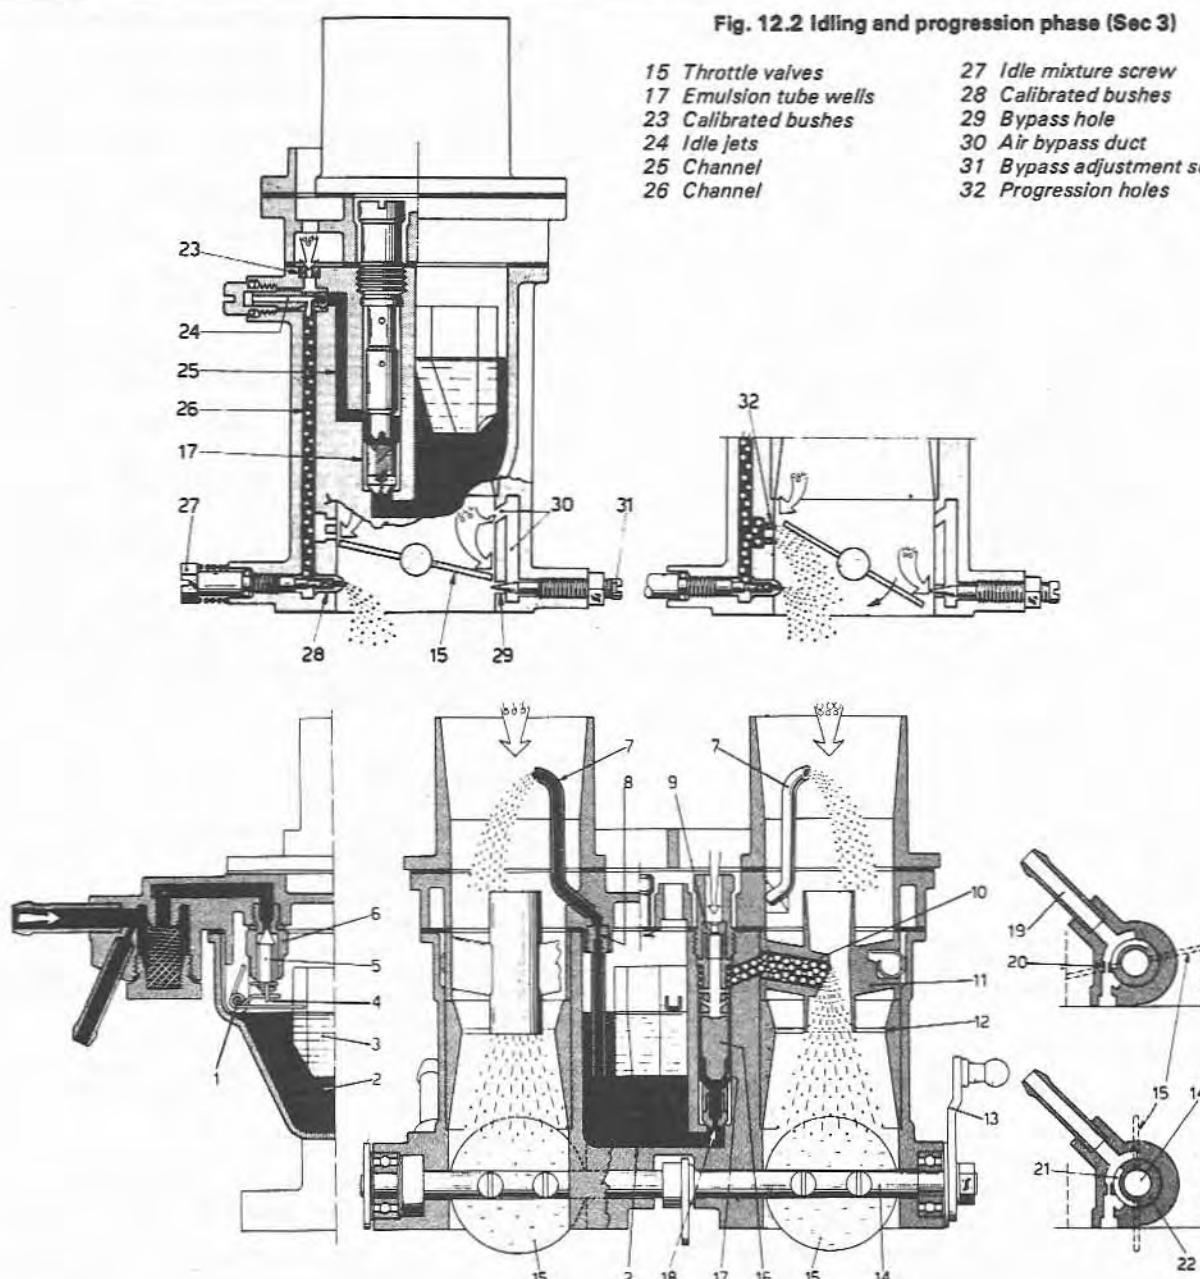

Fig. 12.2 Idling and progression phase (Sec 3)
Refer to Fig. 12.2 and note that when the engine is idling with the throttle valves (15) closed, fuel is drawn through the main jets and emulsion tube wells (17) to the idling jets (24) where it becomes emulsified with air entering through the calibrated bushes (26). The mixture then travels through the channels (26), past the adjustable mixture screws (27), through the idling feed holes (28) and into the carburetor throats at the engine side of the throttle valves (15). The idling mixture screws (27) have tapered ends and can therefore be adjusted to admit more or less mixture as necessary.